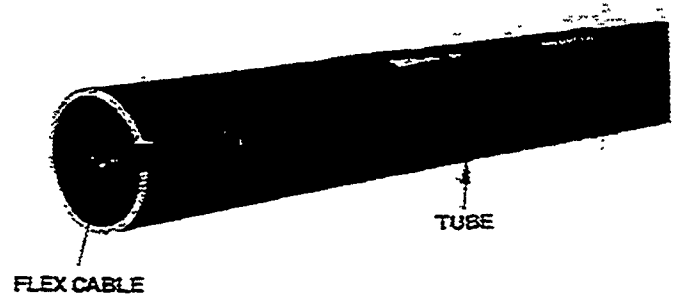

Figure 37
- **Note:** After assembly, the flex cable should not stick out beyond the slotted tube end. If it does, push the cable in as far as it will go (Figure 37).